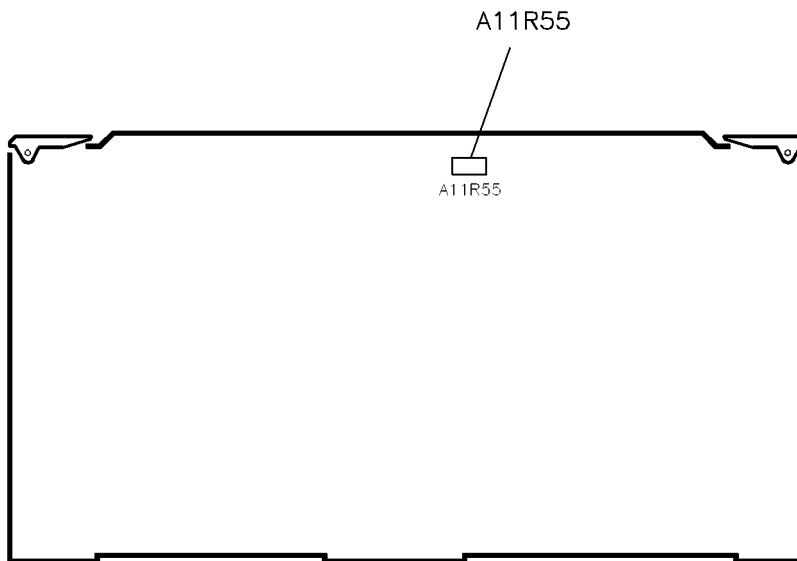

Figure 3-34. FM Gain Adjustment Location
5. Adjust A11R55 (see Figure 3-34) for a minimum signal on the spectrum analyzer.